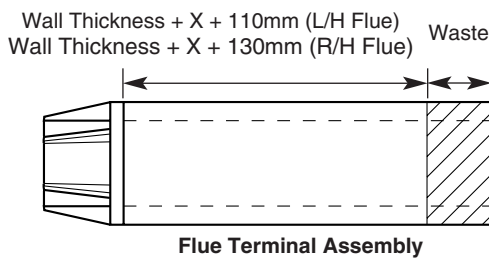

Fig. 41
5. Take the **Flue Terminal Assembly** and measure from the terminal end the dimension below (Fig. 41). Cut the waste off the plain end.